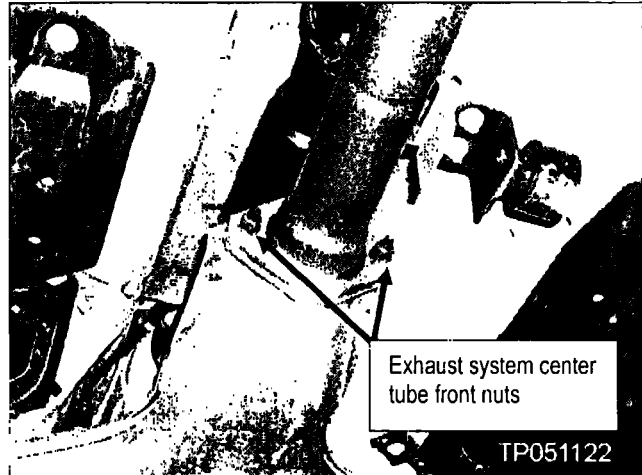

Figure 7
11. Remove and discard the exhaust system center tube front nuts (see Figure 7).